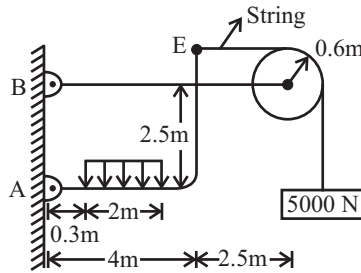

Fig. 2
- (b) The pulley, in Fig. 2, at D has a mass of 200 kg. Neglecting the weights of the bars ACE and BCD, find the force transmitted from one bar to the other at C.